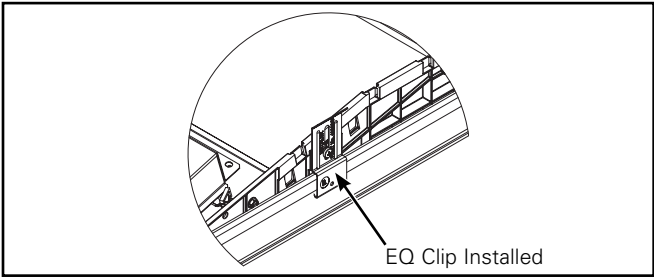

Figure 3.
- When required, attach EQ Clips to luminaire end plate with supplied screws to secure luminaire to T-grid system (Figure 3.). Take care to not over-torque and strip screws.